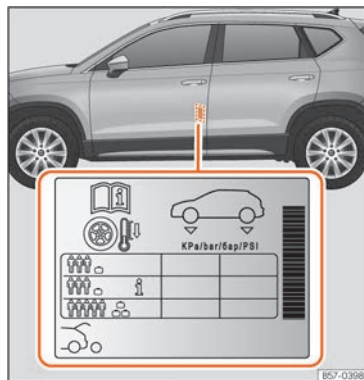

Fig. 229 Location of the tyre pressure sticker.
- Adjust tyre pressure to the load being carried by the vehicle »» **Fig. 229**.
The tyre inflation pressures are listed on a sticker on the rear of the front left door frame »» Fig. 229.
Depending on the vehicle, tyre pressure can be adjusted to medium load to improve driving comfort (tyre pressure **i**) »» Fig. 229). When driving with comfort tyre pressure fuel consumption may increase slightly.
The tyre pressure must be adjusted according to the load the vehicle is carrying. If the vehicle is going to carry the maximum load, the tyre pressure should be increased to the maximum value indicated on the sticker »» Fig. 229.
In the case of a minimised temporary spare wheel (**j**), inflate to a pressure of 4.2 bar as indicated on the tyre pressure label »» Fig. 229.
ded tyre pressure is indicated on the label »» Fig. 229.
- When the tyres are cold, tyre pressure should be that indicated on the label »» Fig. 229.